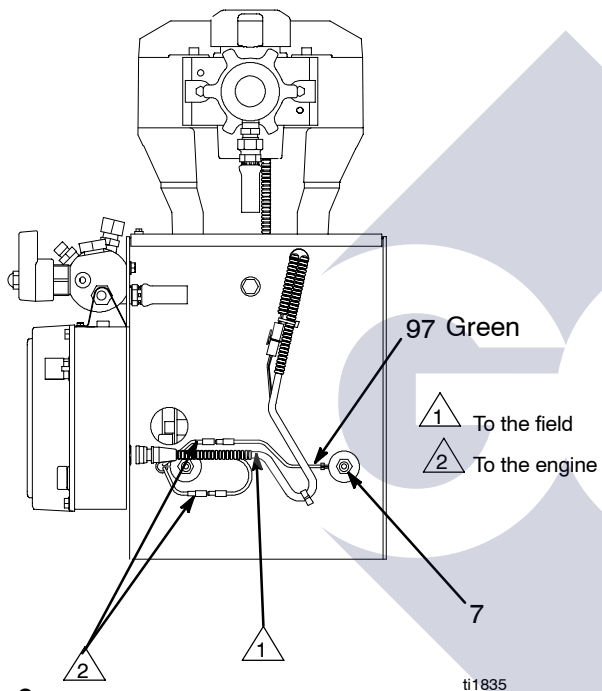

Fig. 6
2. Fig. 6. Disconnect all necessary wiring.
3. Fig. 6. Connect all necessary wiring.